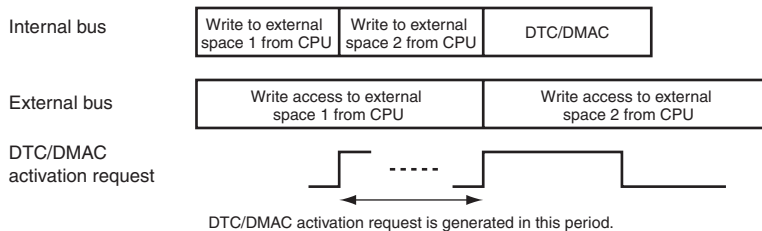

Figure 9.50 Bus Arbitration when DTC or DMAC Activation Request Occurs during External Space Access from CPU
In addition, because the write buffer operates as described in section 9.5.14 (2), Access in View of LSI Internal Bus Master, arbitration between the CPU and DTC/DMAC is different depending on whether the external space access by the CPU is a write or read access. Figure 9.50 shows the bus arbitration when a DTC or DMAC activation request is generated while an external space is accessed by CPU.